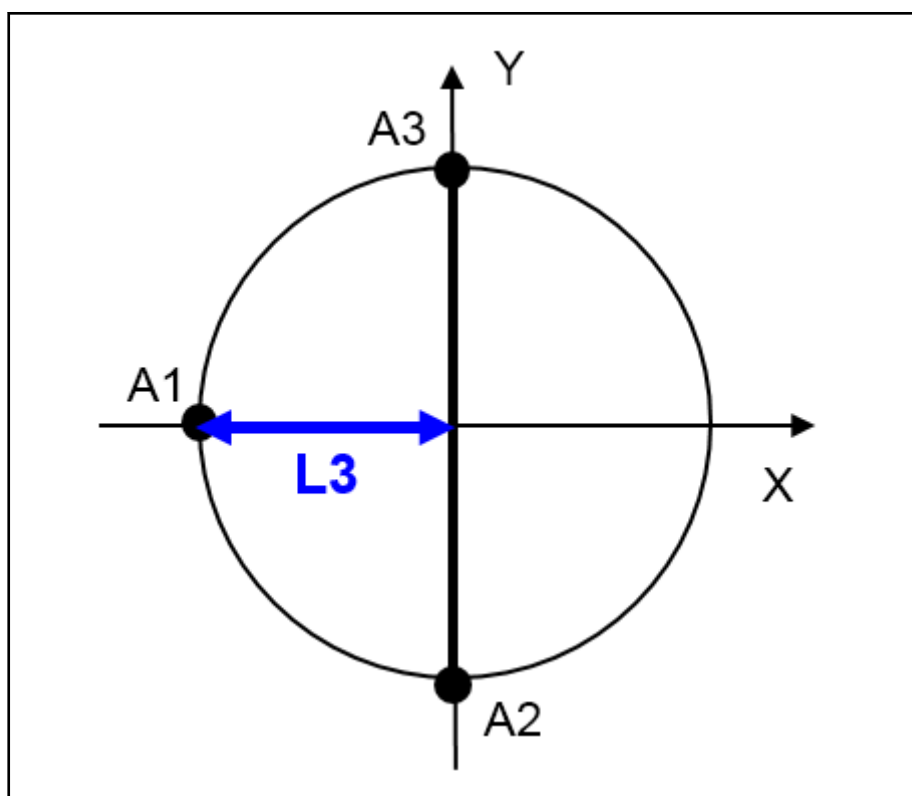

Fig. 4-50: Radius L3 of the motor mount and the coordinate system (x-,y-view)
- L_3 is the radius of the perimeter formed by the three motor spindles (or gears), measured at the rotary center points of the arms (see fig. 4-50 "Radius L3 of the motor mount and the coordinate system \(x-,y-view\)" on page 157)